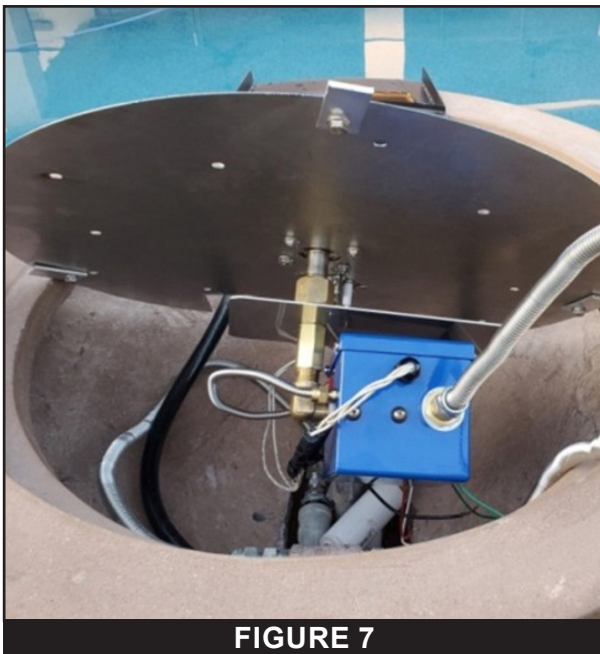

FIGURE 7
2. Lift the burner assembly from the bowl. See **FIGURE 7**.